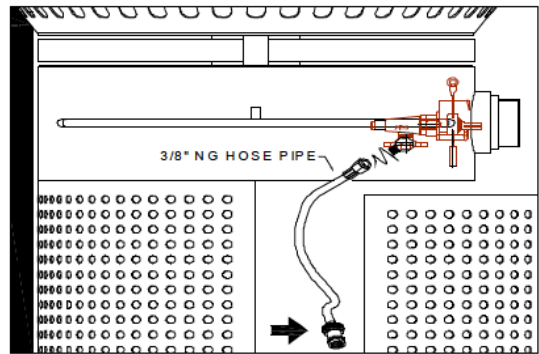

FIG 01.
- A. Assemble as shown above (FIG. 01). Remove the front door. Use a pipe wrench to hold the grill inlet pipe to avoid shifting any internal gas lines of the grill. Remove the pre-attached LP gas hose pipe from the inlet fitting of the grill. Attach the 3/8" ID gas hose on.